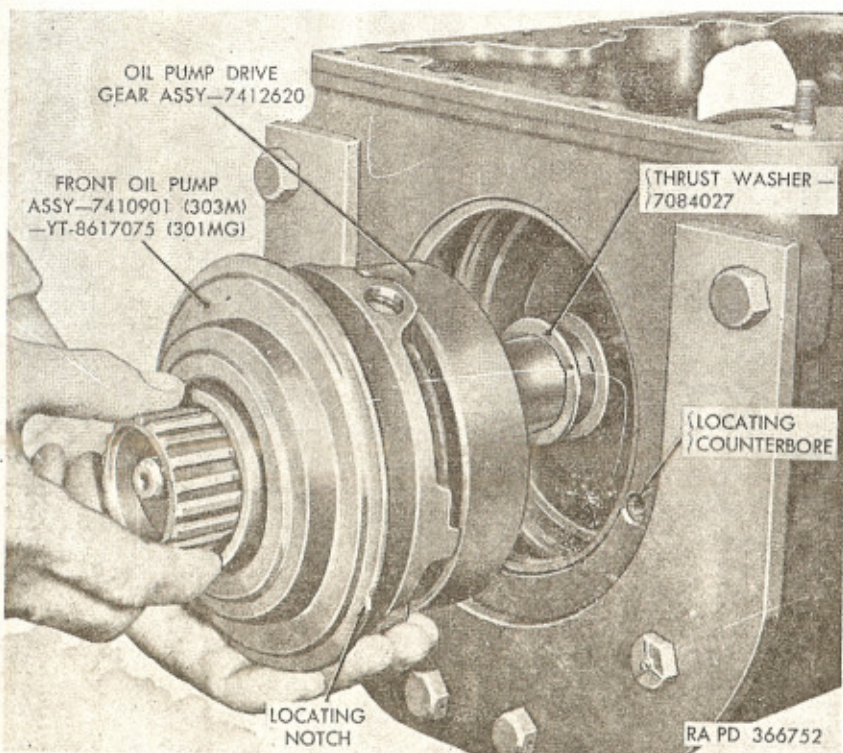

Figure 44. Removing or installing front oil pump assembly.
e. Remove front oil pump assembly and oil pump drive gear assembly (fig. 44) as an assembly by pulling straight out. If necessary, tap rear of front oil pump lightly with brass drift from inner side of case. Remove front drive gear bronze thrust washer from front planet carrier intermediate shaft, if it did not come off with front oil pump drive gear. Remove front oil pump drive gear assembly from front oil pump assembly. Remove and discard front oil pump to transmission case gasket. Using brass drift and hammer, remove drive key from front oil pump drive gear.